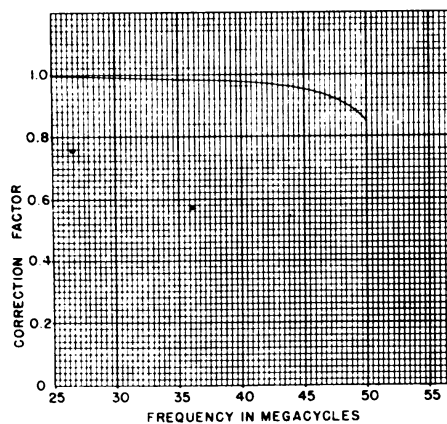

Figure 4-3. Correction Factor - Frequency Curve for Output Voltage on Band H
(2) Whenever changing frequency, readjust the CARRIER CONTROL (E-101) for a meter reading of "100" with the MICROVOLTS control (E-103) returned so the fully clockwise position. Select the desired output voltage by rotating the MICROVOLTS control. Do not use the CARRIER CONTROL for this purpose.
(3) To avoid leakage, the X RF OUTPUT jack (J-101) and the EXTERNAL MOD INPUT jack (J-103) should be covered by caps O-107 and O-110. Similarly, the X MULT RF OUTPUT jack (J-102) should be covered by cap O-108 when not in use.
c. VOLTAGE CORRECTION AT HIGH FREQUENCIES. Due to output jack reactance and increased RF distortion at frequencies above 30 mc, the actual output voltage at these frequencies is somewhat less than the voltage indicated by the meter. This can be adjusted by selecting the correction factor from Figure 4-3. Multiply this factor by the meter indication to get the actual output voltage.